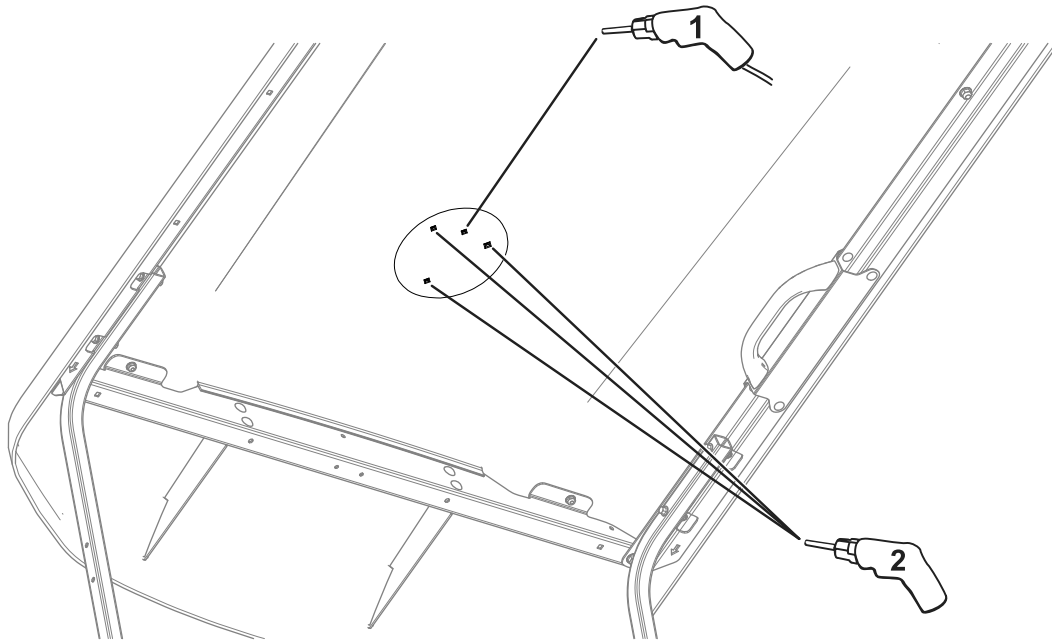

Figure 1
2. Drill holes in the canopy indents as shown in Figure 1.